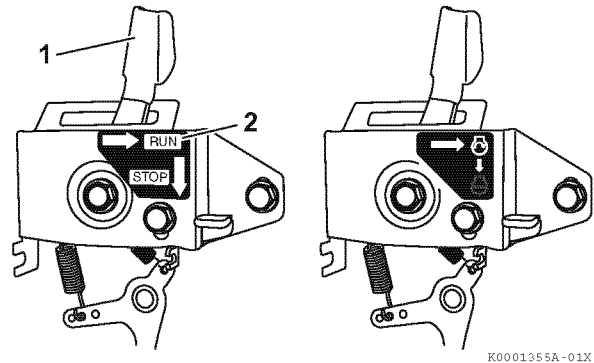

Figure 4
2. If your engine speed control is similar to **Figure 4** slide the engine speed control lever (1, **Figure 4**) to the RUN position (2, **Figure 4**).